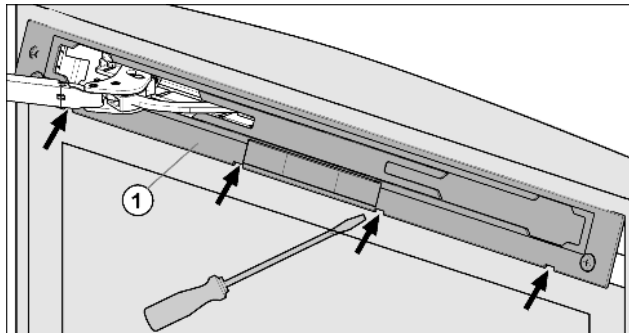

Fig. 11
- Release panel Fig. 11 (1) using slotted screwdriver and remove.